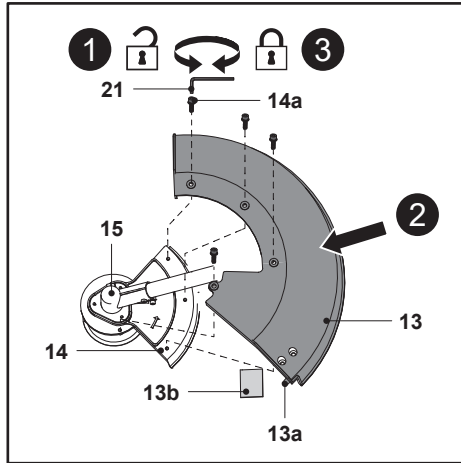

Fig. 5
1. Remove four bolts (14a) from the cutter head (14) by using the provided multi-tool (21) and keep them handy (Fig. 5, step 1).
2. Align the trimmer guard (13) with the cutter guard (14) and slide the trimmer guard (13) into place (Fig. 5, step 2).
3. Secure the trimmer guard (13) with the four bolts (14a) by using the provided multi-tool (21) (Fig. 5, step 3).